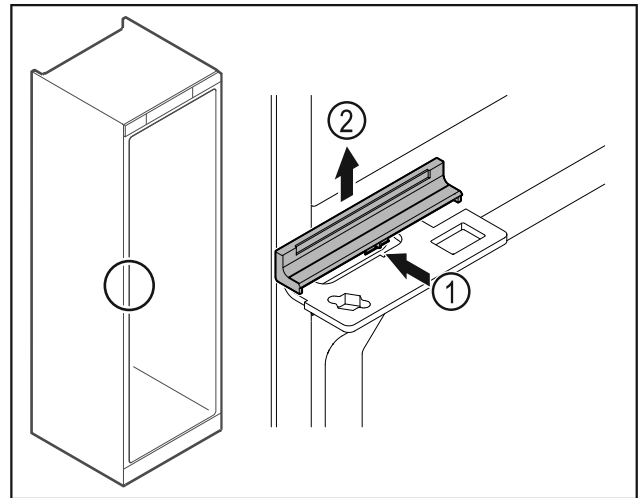

Fig. 37
- ▶ Gently press the middle of the cover Fig. 37 (1) and lift it off Fig. 37 (2).